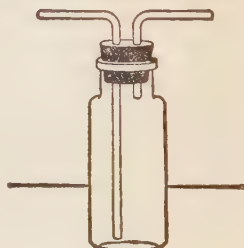

FIG. 25.
a. If this experiment is to be performed quantitatively, a gas washing-bottle (Fig. 25) will be required to dry the gas obtained as in 67 **d**, and should contain enough concentrated sulphuric acid to immerse the longer tube to a depth of half an inch. Attach the longer tube of the bottle by rubber tubing to the generating flask.